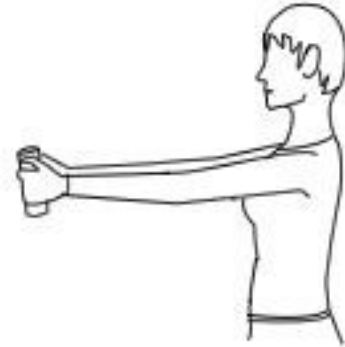

Figure 6 – How to hold the BIA electrodes when taking a reading.
- 2) Connect the leads of one of the hand held electrodes to I+ and V+. Connect the other hand held electrode to I- and V-. While standing, hold the electrodes with outstretched arms as shown in Fig. 6. Make sure your palms are touching both electrodes.
- 3) Use LoggerPro to measure both V_{phs} and V_{mag} . Enter these into the Excel sheet provided. Z and the phase angle are calculated in the Excel columns using Eq. (7), as in Part Two. The body's resistance and reactance are calculated from Z and the phase angle using Eq. (6).
- 4) Enter the height, weight, age, and gender of the volunteer into the appropriate columns in the Excel sheet. The body's FFM is calculated by Excel using Eq. (10). Use a force plate to measure the volunteer's weight.